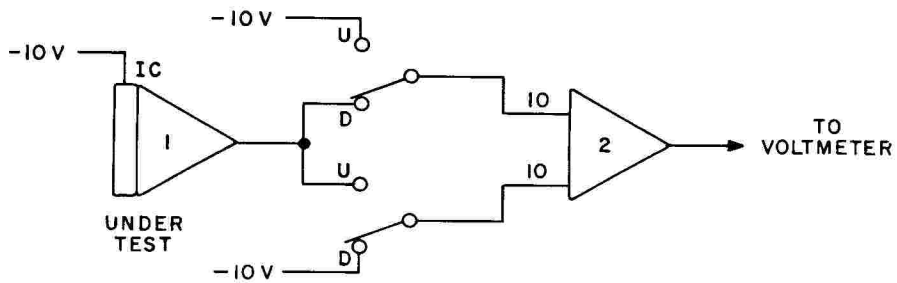

Figure 21. Initial Condition Resistor Ratio Check Circuit
(1) Connect the circuit shown in Figure 21. Place the computer in the reset mode.
(2) Place both switches in the down position; measure and record the output voltage of amplifier 2. Place both switches in the up position; measure and record the output voltage of amplifier 2.
(3) The algebraic average of the two readings, divided by 10, should be less than 20 millivolts. (The algebraic average is the algebraic sum divided by two.)
(4) If the results of this test are unsatisfactory, the initial condition resistors are mis-matched or out of tolerance.